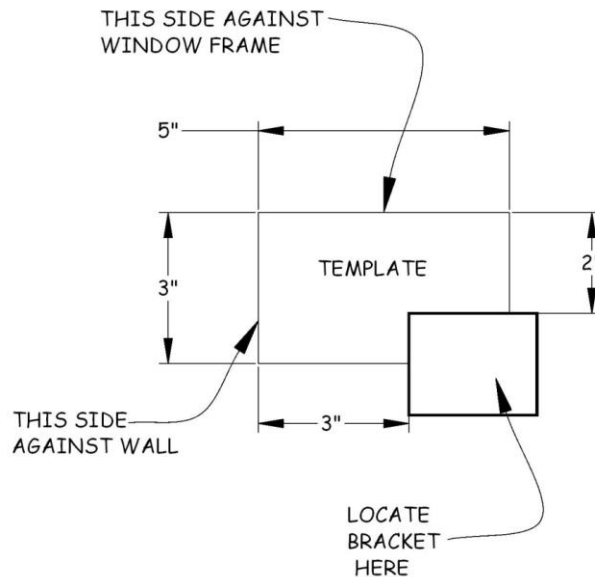

Figure 19-6. Miniblind Installation Guide.
1. Create a template from a piece of 3"x5" cardboard as shown in Figure 19-6.
2. Hold the template against the top of the window frame (against the header) and install the blind mounting brackets on each side of the window (see Figure 19-6). For cordless mini blinds, adjust the mounting brackets left or right to avoid interfering with the mini blind's raise/lower mechanism